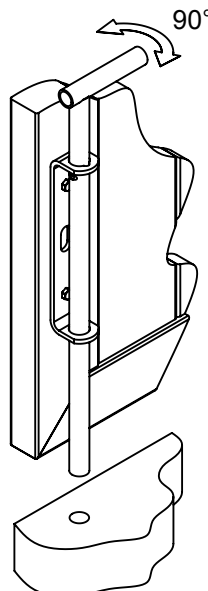

Figure 5
1. To set the GATE in place, rotate the DROP ROD 90° clockwise to allow the middle RETENTION EAR to pass through the opening, and lower the DROP ROD into the aligned hole in the ground. Then rotate the DROP ROD back 90° counterclockwise to lock in place (Figure 5).